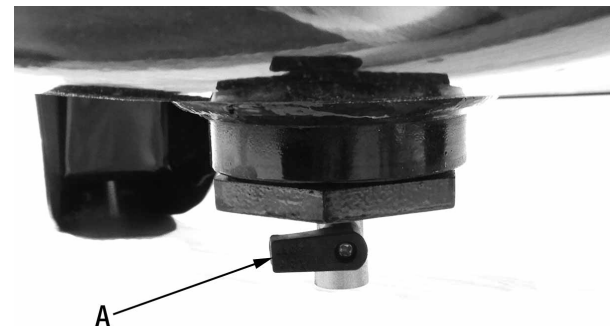

FIGURE 5
- 4) Open the drain valve (A) Fig.5, turn it counterclockwise, this will prevent air pressure build-up in the tank.